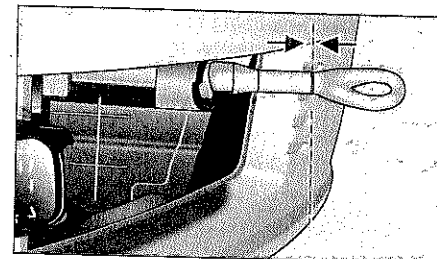

Fig. 300 Right front bumper without grill: Towing loop fully screwed in
marking **A** must be flush with the bumper ⇒ fig. 300.
- Screw the towing loop tightly into the threaded hole as far as it will go. The check mark must be flush with the bumper ⇒ page 367, fig. 300.